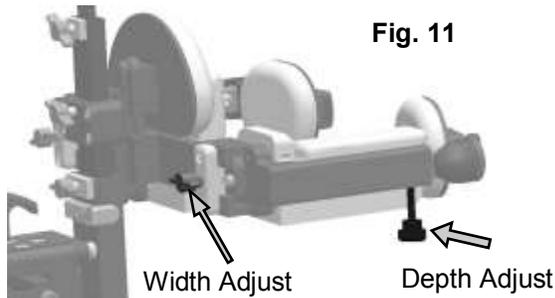

Fig. 11
- Loosen the width and depth adjustment knobs (fig. 11) and slide the pads out and forward enough to allow the client to fit between them. (these pads will be re-adjusted after the client has been placed into the *KidWalk II*).